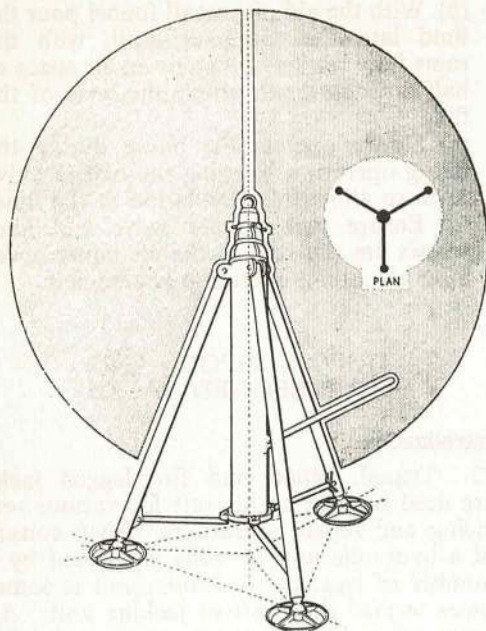

Fig. 3. TRIPOD JACK
23. Tubular legs are attached to a hydraulic body to form a tripod jack (Fig. 3), thus forming a three-legged trestle with the feet equally disposed around the axis of lift. The centre line of the hydraulic body coincides with the lifting axis. The use of the tripod jack is limited because only a straight lift can be taken and no allowance can be made for any lateral movement of the jack head.